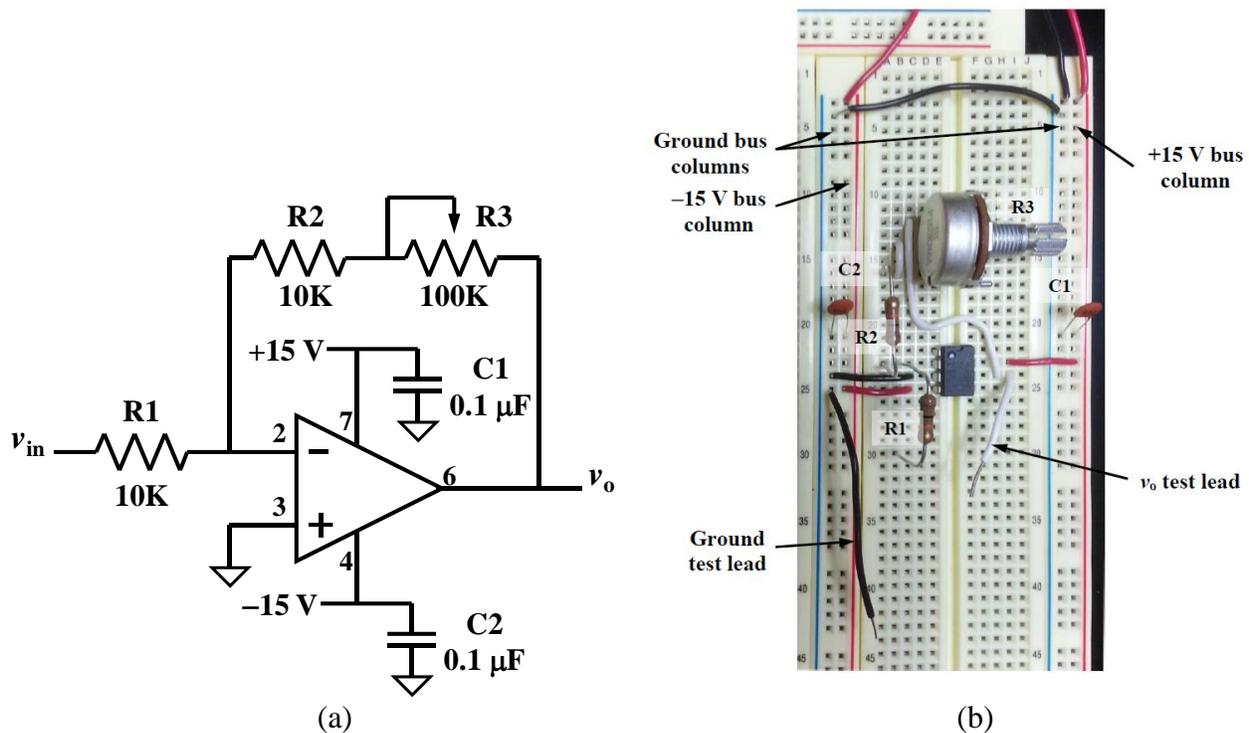

Fig. 2. First op-amp circuit (a) schematic and (b) example breadboard layout.
1. For the five amplifier circuits in Figs. 2, 3, 4, 5, and 6:
- For the first and second circuits (Figs. 2 and 3), the feedback resistor is the series combination of  $R_2$  and  $R_3$ . Use both of these resistor symbols in your expression.
- Record these results in Table 1 for circuits 1 through 4 (Figs. 2 through 5) and in Table 2 for the circuit 5 (Fig. 6).